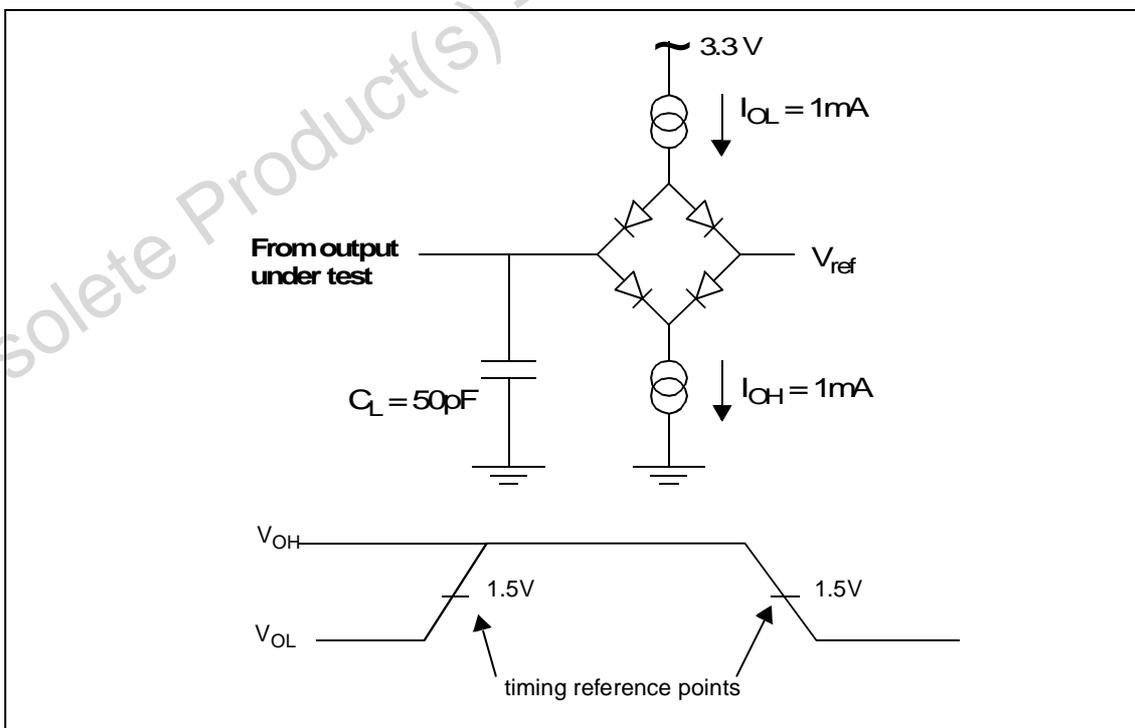

Figure 9 Output load circuit waveform
- Output load: ..... see Figure 9